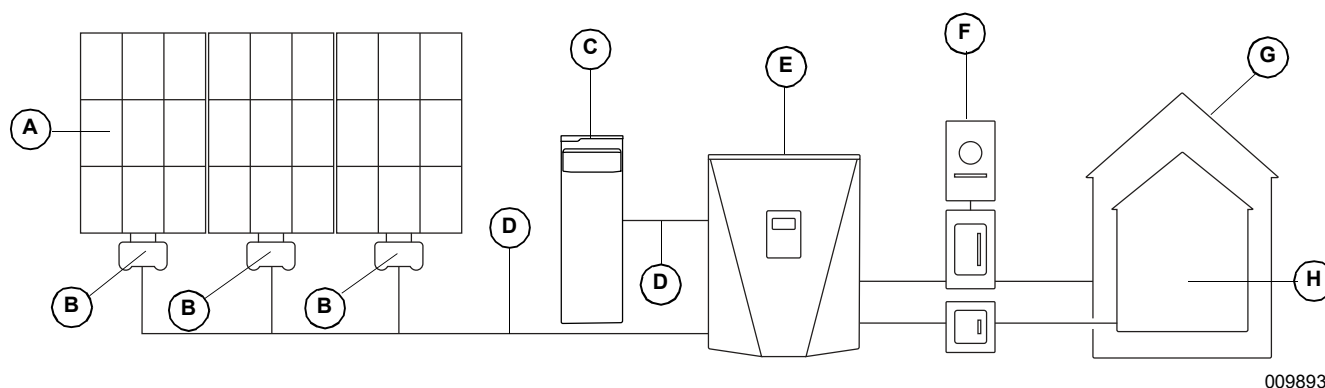

Figure 2-4. Generac PWRcell System Example.
In Figure 2-4, a REbus-compatible PWRcell Inverter (E)